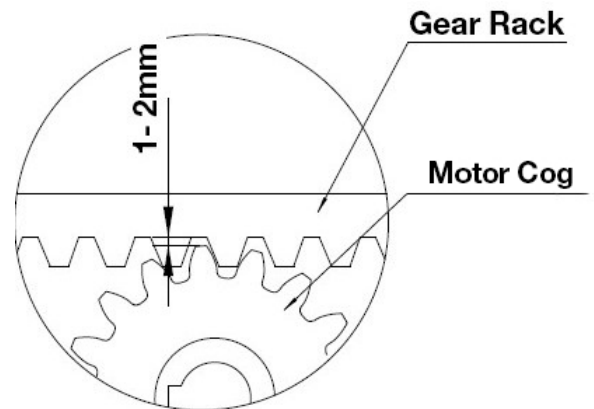

Fig 14
- Ensure that the gate drive cog has a minimum clearance of 1-2mm along the entire length of gear rack fitted to the gate (as per Fig 14).